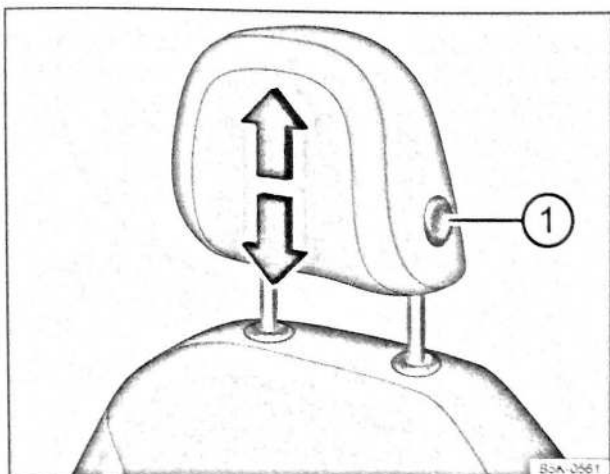

Fig. 46 Adjusting front head restraint
- Push the head restraint up or down in the direction of the arrow while pressing and holding button ⇒ Fig. 46 ① ⇒ ▲.